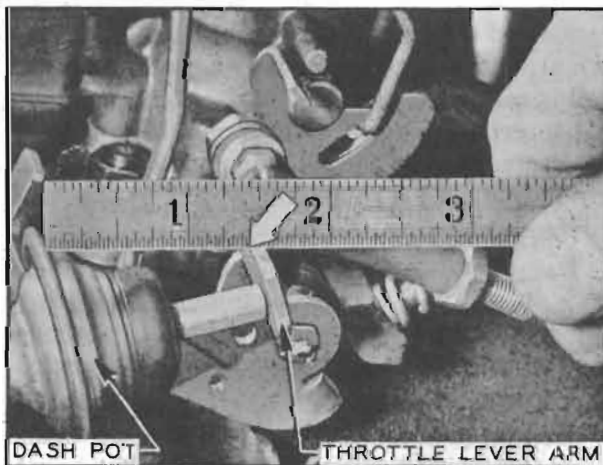

Figure 10-27—Checking Switch Timing on Car—Step One
3. With throttle valve fully closed, measure distance from diaphragm flange of dash pot to near edge of dash pot arm on throttle lever. See figure 10-27.